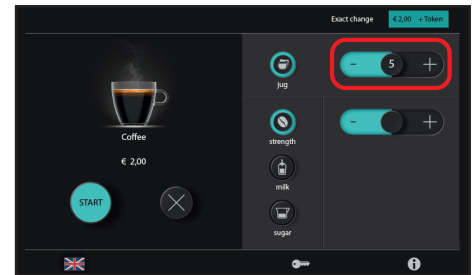

Figure 28.
3. Now choose the quantity by dragging the bar (Figure 28).